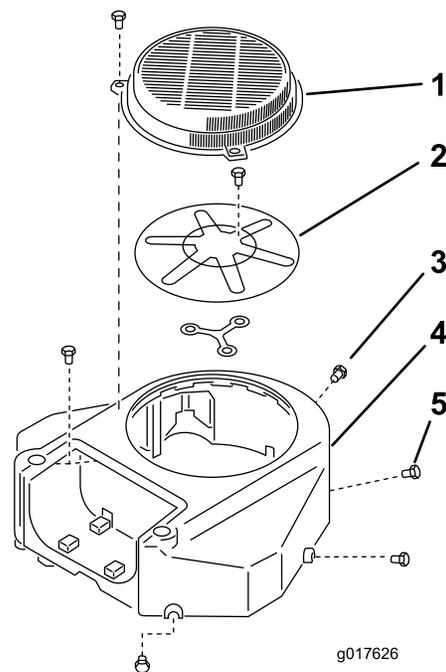

Figure 58
3. Remove the air-intake screen and the fan housing (Figure 58).
5. Install the air-intake screen and fan housing (Figure 58).